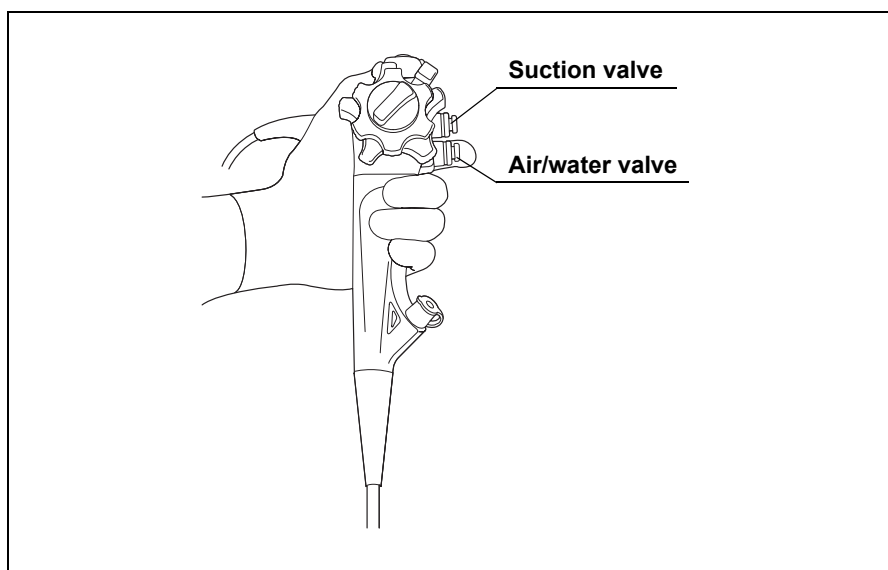

Figure 4.3
1. Cover the air/water valve's hole to feed air from the air/water nozzle at the distal end (see Figure 4.3).
2. Depress the air/water valve to the first stage to feed water onto the objective lens (see Figure 4.3).
Depress the suction valve to the first stage to aspirate excess fluid or other debris obscuring the endoscopic image (see Figure 4.3).